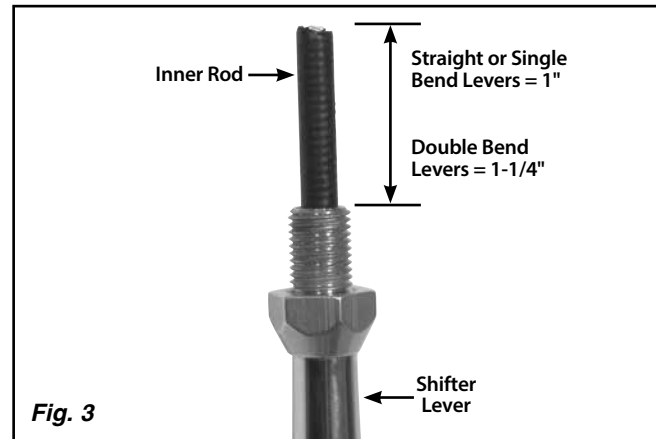

Fig. 3
Step 7: The inner rod will need to be cut to fit using heavy-duty 8" diagonal cutting pliers. With the shifter in "PARK", if you are installing a straight shifter lever or a single bend shifter lever, cut the inner rod 1" above the top thread on the shifter lever. If you are installing a double bend shifter lever, cut the inner rod 1-1/4" above the top thread on the shifter lever. **Fig. 3**